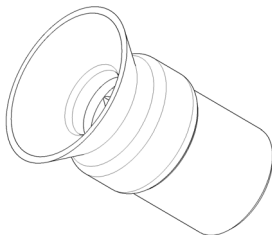

figure 32
- 2 **Once weekly:** make sure the scraper coupling seal is not worn. If it is, replace with an original spare part from the manufacturer. (see figure 32)
spare part from the manufacturer (see figure 32).